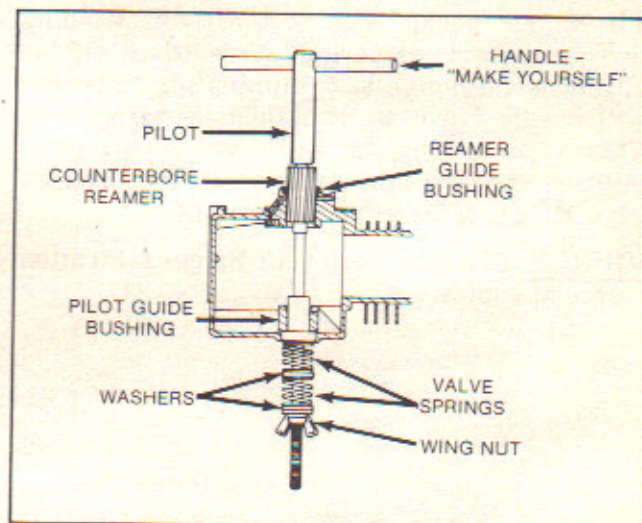

Figure 1 — Counterbore Reaming
4. Place #19224 counterbore reamer on #19223 pilot and insert into cylinder, figure 1.
5. Position springs, washers and wing nut, figure 1. (Parts not included in tool kit.)